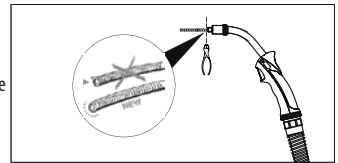

Figure 14 : Cutting off the Liner Stick Out and Reassembling the Torch
- Reassemble the adaptor, the contact tip and the nozzle respectively with help of an appropriate hand tool (Figure 14).